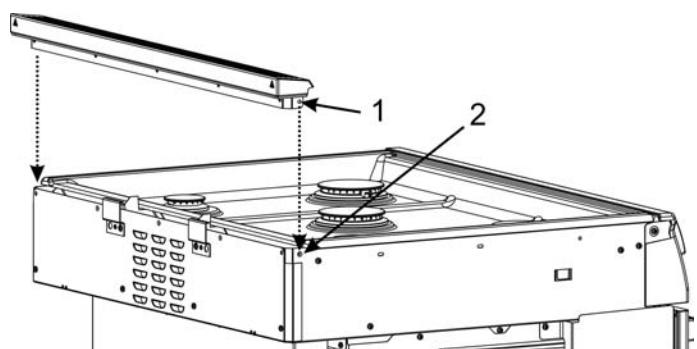

Figure 2: Island Trim placement
4. Remove the screws holding the trim (five screws on the back and one screw on each end). Save the screws for installing the Island Trim (see Figure 2: Island Trim placement).
6. Lower the Island Trim into place, aligning the Island Trim hole 1 with the hole at 2 on both sides of the range. See Figure 2: Island Trim placement.